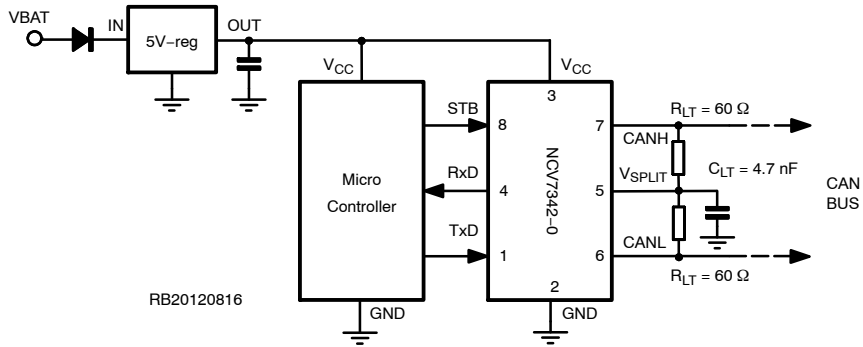

Figure 4. Application Diagram NCV7342-0
**NCV7342-0:** Pin 5 is common mode stabilization output  $V_{SPLIT}$ . (see Figure 4) This version is full replacement of NCV7340.
The  $V_{SPLIT}$  pin (available on NCV7342-0 version) is operational only in normal mode. In standby mode this pin is floating. The  $V_{SPLIT}$  can be connected as shown in Figure 4 or, if it's not used, can be left floating. Its purpose is to provide a stabilized DC voltage of  $0.5 \cdot V_{CC}$  to the bus reducing possible steps in the common-mode signal, therefore reducing EME. These unwanted steps could be caused by an unpowered node on the network with excessive leakage current from the bus that shifts the recessive voltage from its nominal  $0.5 \cdot V_{CC}$  voltage.